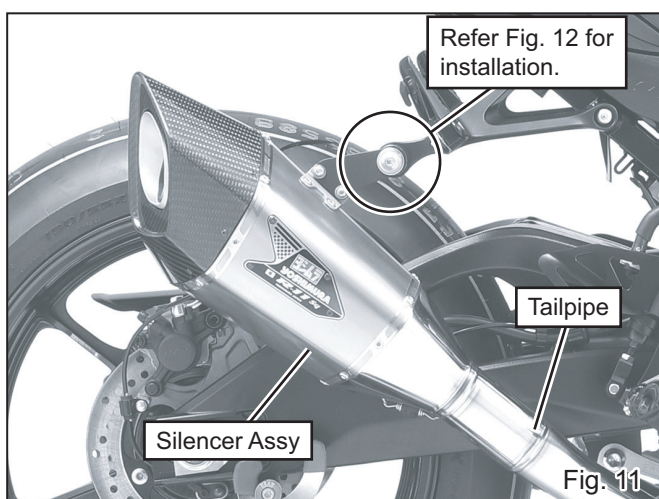

Fig. 11
- 18) Install Silencer Assy into Tailpipe, and mount Silencer Assy to stock silencer bracket with Washer M8x26, stock bolt, washer and nut (See Fig. 11 & 12). Tighten the bolt by hand only at this stage.